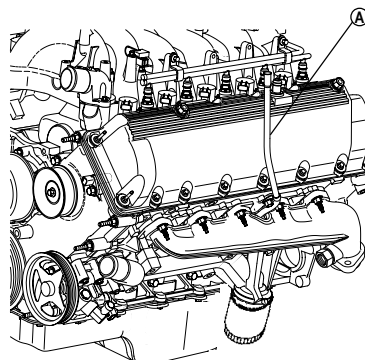

Fig. 8 – A Dipstick
2. Pull out the dipstick (Fig. 8) and wipe it with a clean rag.